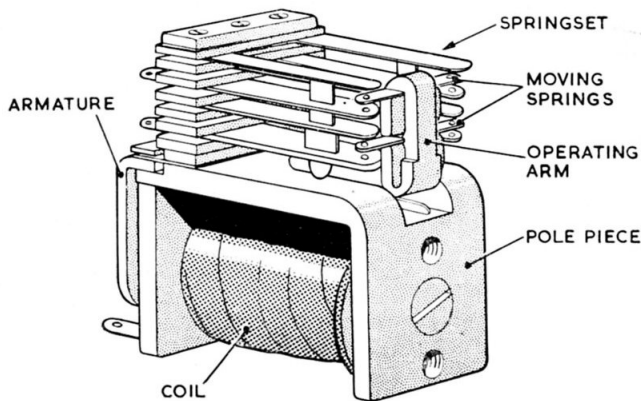

Fig. 2. Relay removed from its casing
2. The mechanism of the relay is shown in *fig. 2*. It incorporates an L-shaped pole piece, reduced in thickness at the armature end to form a step into which the armature fits and pivots on a flat spring attached to the pole piece. An extension on the armature passes along a slot in the long side of the pole piece, and an operating arm, riveted to the armature extension, operates the moving springs of the relay.